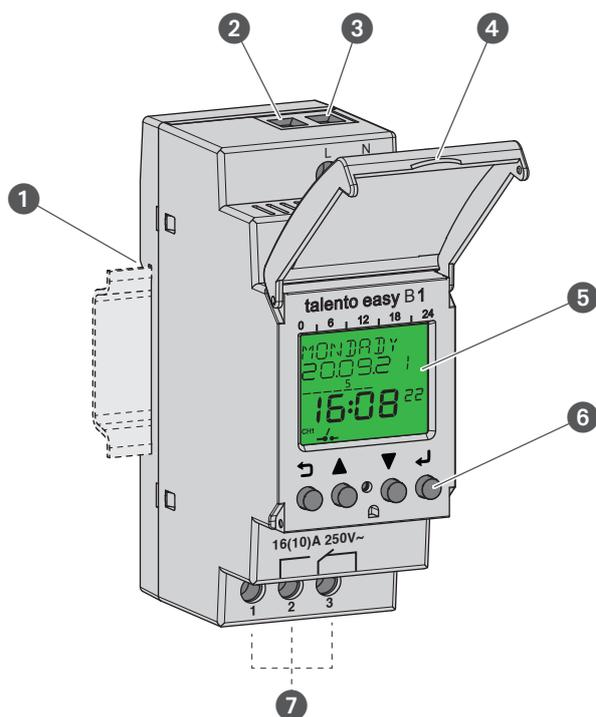

Fig. 1: Clock timer
The clock timer is a timer that is installed on a DIN rail (Fig. 1/①) by means of a click system; the timer controls the device that is connected via the output terminals (Fig. 1/⑦). The clock timer has one channel and can be operated via a display (Fig. 1/⑤) with four control buttons (Fig. 1/⑥).